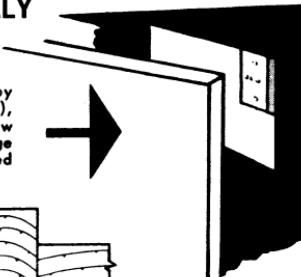

Fig. 1
1. For flush doors (Fig. 1 below), trim template to solid line indicated by arrow on template. For overlay and lip type doors (Fig. 2 and 3 below), trim template to dashed line indicated. To locate mounting screw holes, position paper template on mounting surface with trimmed edge flush with the inside surface of the door when door is in fully closed position.